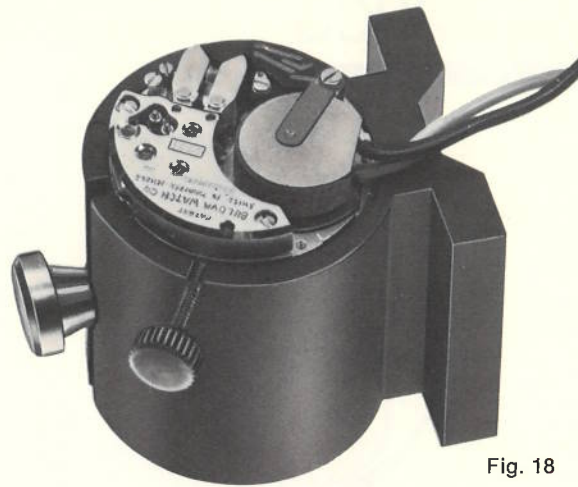

Fig. 18
1. Attach power cell lead to the movement, holding it down with cell strap, tap movement to start the fork vibrating (fig. 18).